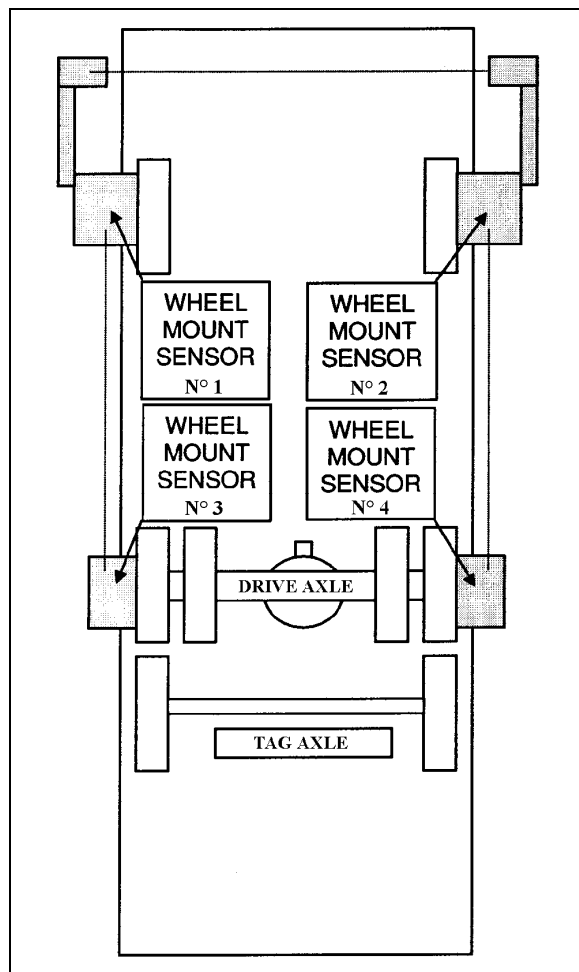

FIGURE 6: FRONT & DRIVE AXLE ALIGNMENT
3. Install wheel mount sensors on front end and drive axle wheels (fig. 6).